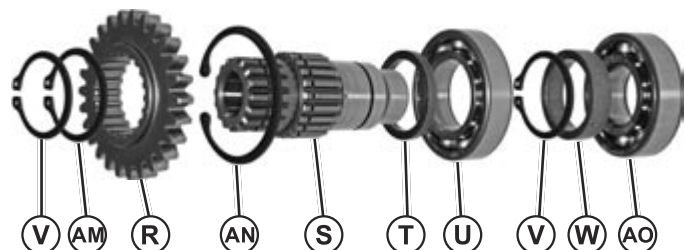

Fig. 47, 4WD Cover Removal
8. Remove snap rings (V) and (AM); then, gear (R) from shaft (S). Remove snap ring (AN) and remove (S, T, U, V, W, and AO) as a single item from the 4WD gear case.
9. Remove press bearing (AO), collar (W), snap ring (V), press bearing (U), and collar (T) from shaft (S). (Fig. 47)